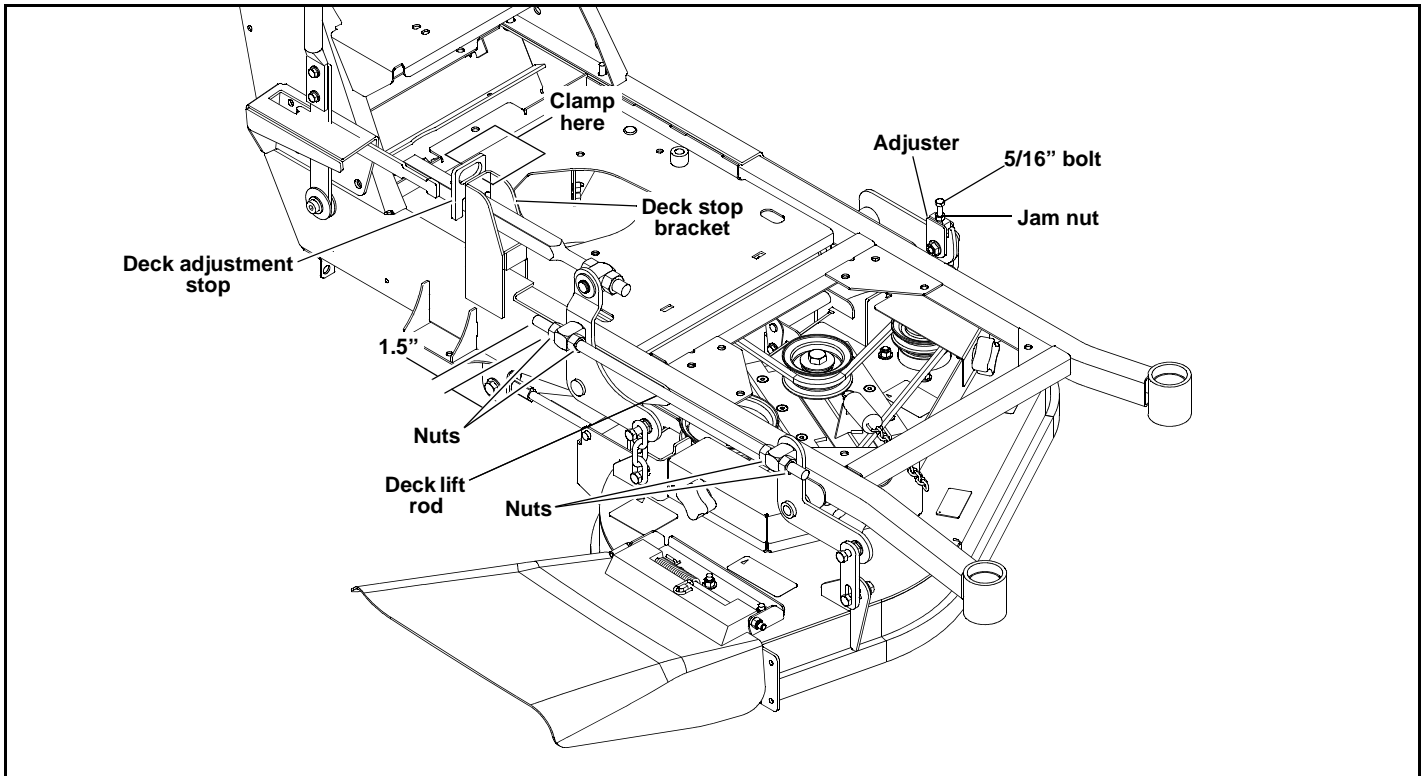

Figure 6-4
4. Place the height stop in the 3” (7.62cm) hole, with the flat side of the height adjusting stop against the stop handle. Clamp the height adjusting stop against the deck stop bracket. This will assure that the height will not move during the setting process. Figure 6-4
5. Loosen all nuts on the deck lift threaded rods and the hardware on the adjuster (on the left rear), until **all** the deck lift chains are loose, **and** the deck is sitting tightly on all four blocks. Figure 6-4
6. Loosen the two nuts on the front of height indicator bar so that the bar has some play. Figure 6-4
8. Set the amount of threads protruding on the deck lift rod from the lift block at approximately 1.50” (left & right side). Figure 6-4
9. Jam both nuts against the block. Figure 6-4
10. Push or pull on the deck lift bell crank until the chain on the **right rear** just becomes tight, making sure that the deck stays tight against the deck support block. Figure 6-4
11. While keeping the chain tight, tighten the nuts against the deck lift block on the height indicator. Figure 6-4
13. Loosen the jam nut on the adjuster, and back the 5/16" bolt out to allow the adjuster to move up and down freely. The deck lift chain should be slack. Figure 6-4
14. Tighten the 5/16" bolt until the chain just becomes tight, making sure that the deck stays tight against the deck support block. Figure 6-4
15. Tighten the jam nut to prevent the adjuster from moving. Figure 6-4
16. Tighten the hardware holding the chain and adjuster onto the deck lift arm. Figure 6-4
18. Make sure that there is still slack in the chain. If not, loosen the two nuts on the block holding the threaded rod until there is slack in the deck lift chain. Figure 6-4
19. Tighten the appropriate nut until the chain just becomes tight, making sure that the deck stays tight against the deck support block. Figure 6-4
20. Tighten the other nut on the opposite side of the block, and jam them tightly together against the block. When completed, all chains will be tight, and deck will be resting on the blocks. Figure 6-4